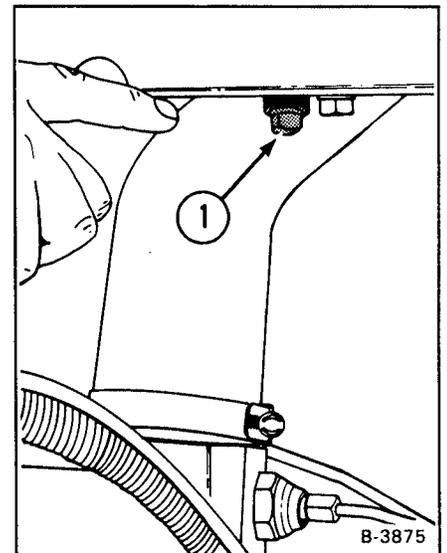

Fig. 1-36 Spark Arrestor Muffler Plug Location
- (2) Remove the plug at the bottom of the muffler (Fig. 1-36, Item 1).